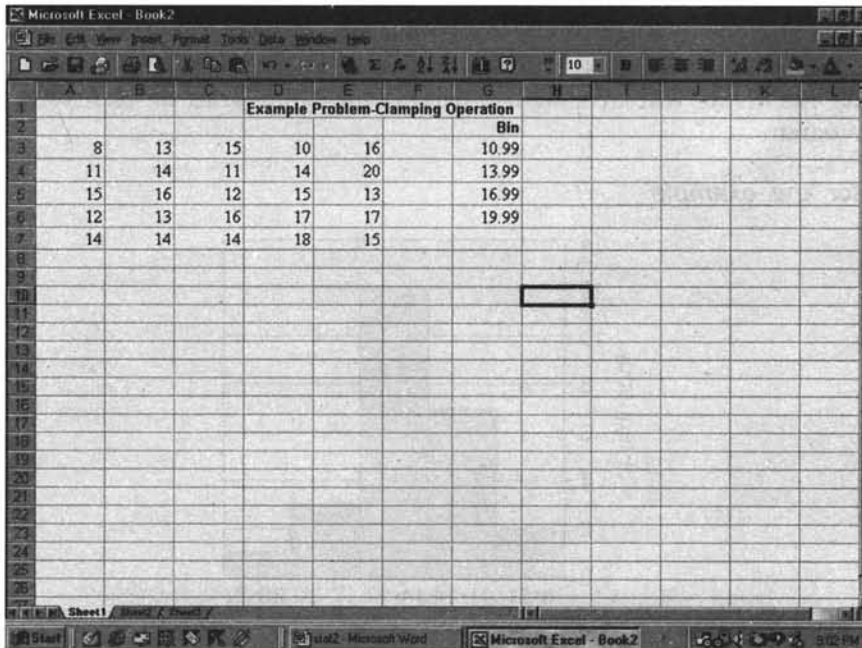

Figure 2.5
- Step 1** Data entry for this option is simply entering all values of the raw data in a readable format. In a separate column, you enter the **Bin** values, that are nothing but the upper limits of the classes you want. The last upper limit you need not enter as it is automatically taken by default. The initial screen after step1 is shown in figure 2.5.